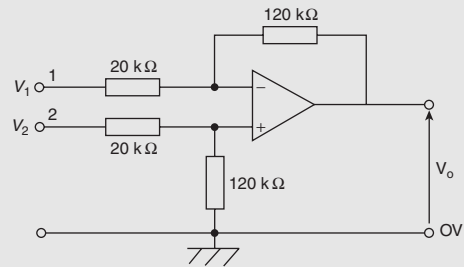

Figure RT5.2
- In the differential amplifier shown in Figure RT5.2, determine the output voltage, V_0 when:
- $V_1 = 20\ \text{mV}$ and $V_2 = 10\ \text{mV}$ (6)